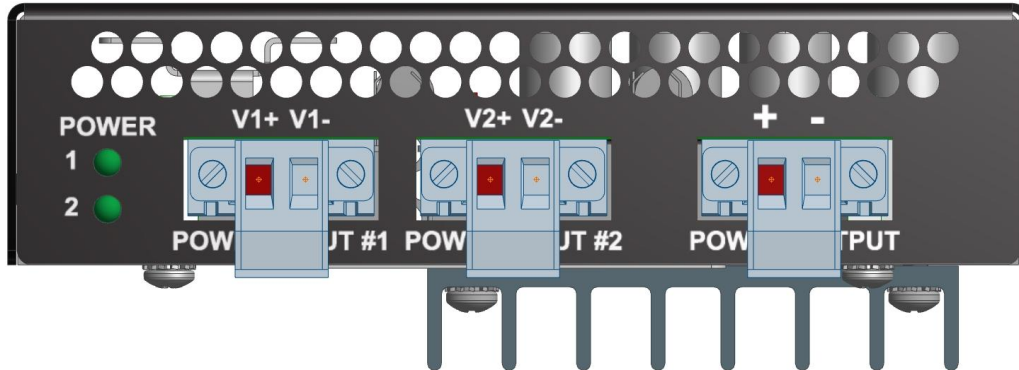

Figure 4: Front Panel
2. Insert the positive and negative power wires into **V1+** and **V1-** contacts respectively of the terminal block (note polarity on the chassis). Make sure the wires are secure. See Figure 4 on the previous page.
3. Insert the positive and negative power wires into **V2+** and **V2-** contacts respectively into the power source—make sure the wires are secure. See Figure 4 on the previous page.
4. Insert the positive and negative power wires into **+** and **-** contacts respectively into the power source and make sure the wires are secure. See Figure 4 on the previous page.